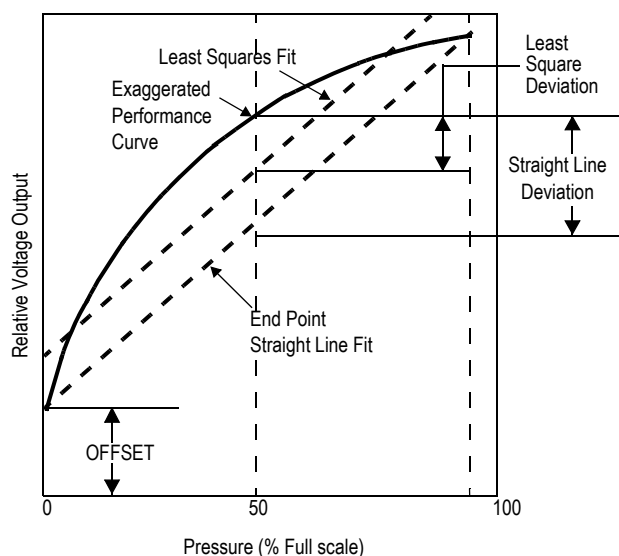

Figure 3. Linearity specification comparison
Linearity refers to how well a transducer's output follows the equation: $V_{OUT} = V_{OFF} + \text{sensitivity} \times P$ over the operating pressure range. There are two basic methods for calculating nonlinearity: (1) end point straight line fit (see Figure 3) or (2) a least squares best line fit. While a least squares fit gives the "best case" linearity error (lower numerical value), the calculations required are burdensome.